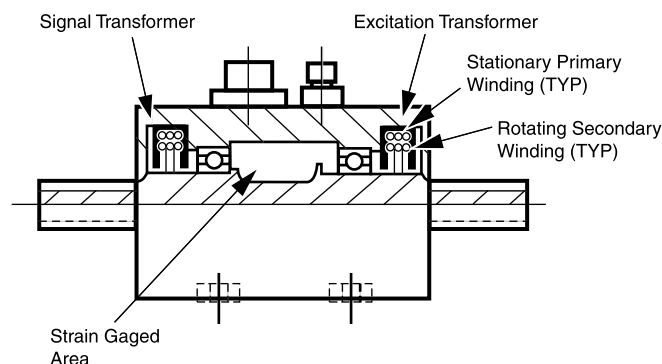

Figure 58. Rotary Transformer Torque Sensor Diagram
**Figure 58** depicts a typical rotary transformer torque sensor: